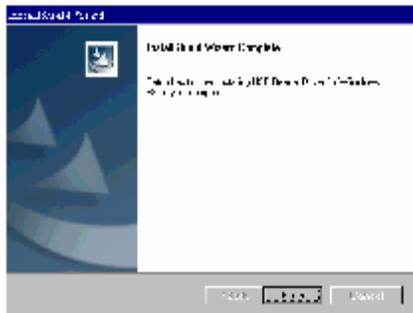

Figure 3-20
6. When installation is finished, the screen will display the information as shown in Figure 3-20. Click "Finish" to exit.